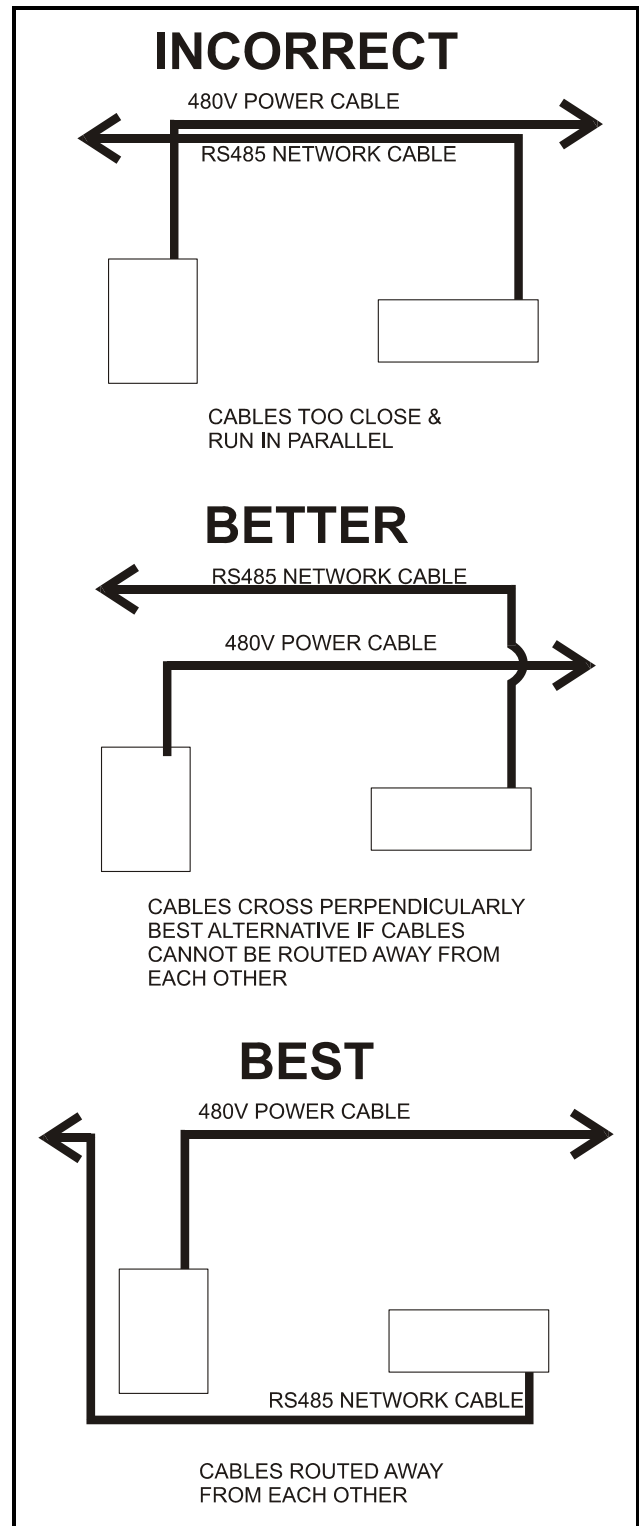

Figure 3-1 - Examples of Good & Bad Cable Routing
3. Avoid running even part of the communication wiring in close parallel with high voltage wiring. A run of parallel wire as short as a few inches could yield enough noise to affect network communication. If the wires must cross each other in close proximity, cross them perpendicular to each other so the amount of noise is minimized (see *Figure 3-1*).